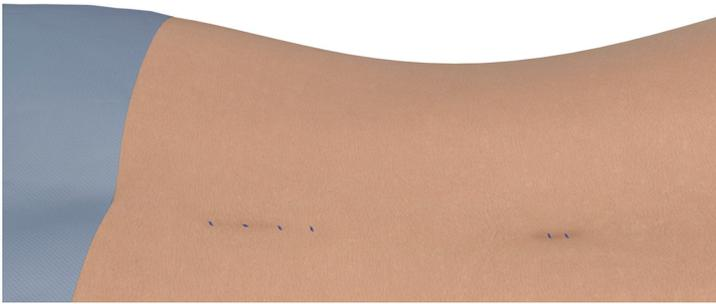

Figure 13
6. Close incisions using sterile skin closures and dressings (see Figure 13).